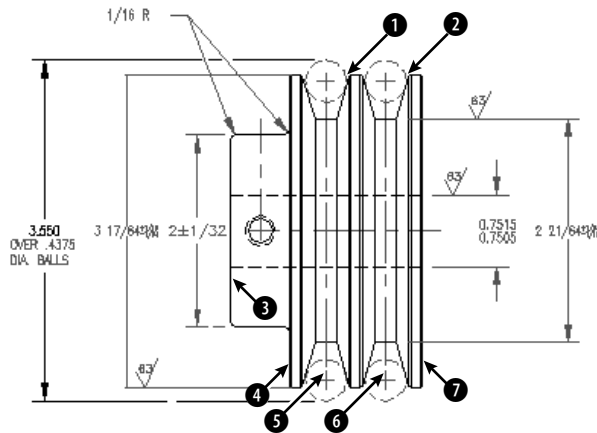

**Figure 14-30:** You can use Quick Dimension to dimension the circles and create continuous dimensions.
2. Save the file as *ab14-07.dwg* in your AutoCAD Bible folder. This is the same drawing that you used in the previous exercise, except that some of the dimensions have been removed (see Figure 14-30). OSNAP should be turned off. If the Dimension toolbar isn't displayed, right-click any toolbar and choose **Dimension**.
Select geometry to dimension: *Pick the circle at ❶ in Figure 14-30.*
Select geometry to dimension: *Pick the circle at ❷ in Figure 14-30.*
Select geometry to dimension: *Pick the line at ③ in Figure 14-30.*